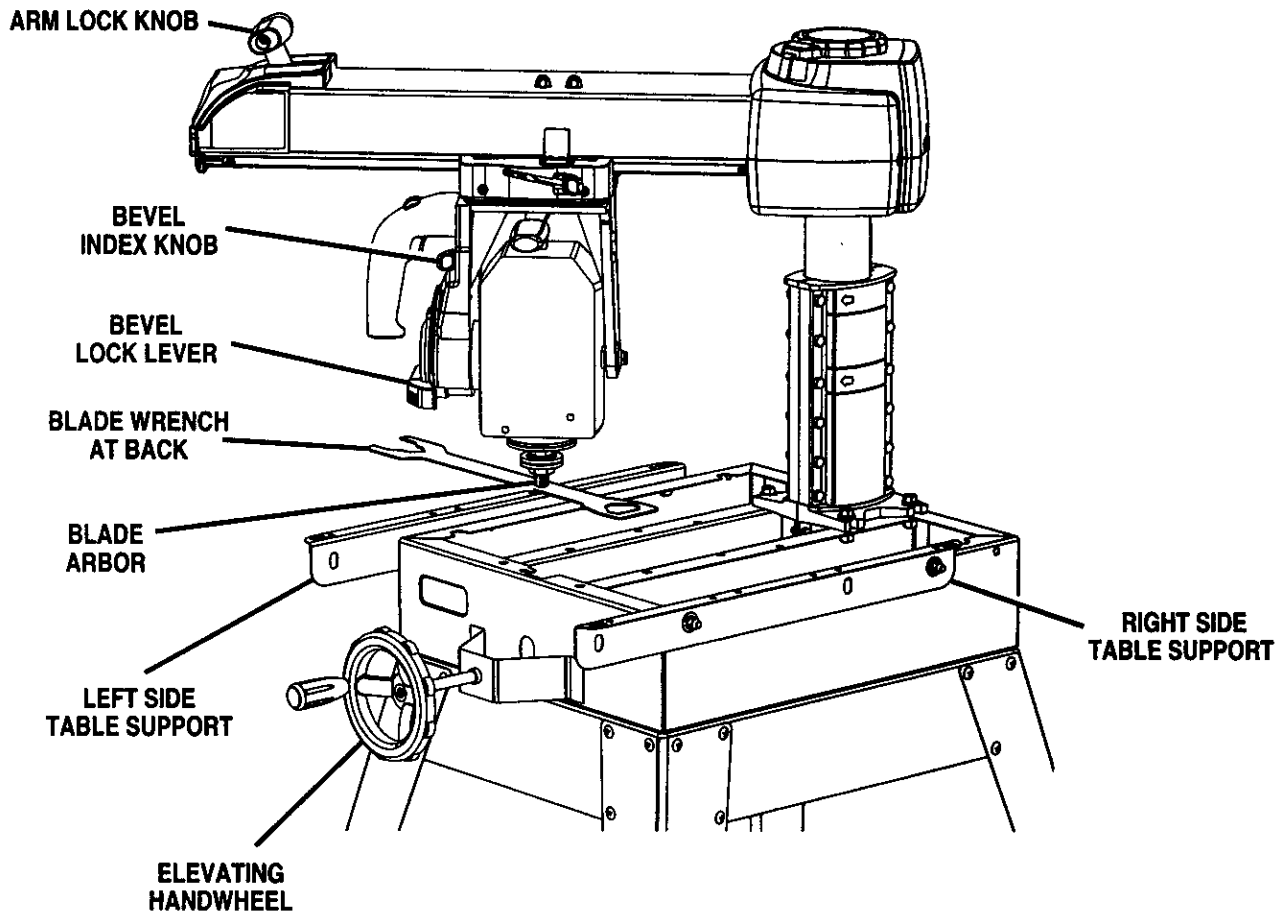

Fig. 22A
See Figures 22A and 22B.
- Release the arm lock knob to angle the arm. Begin by positioning the arbor shaft over the back of the highest table support. Normally this is the left side. See Figure 22A.